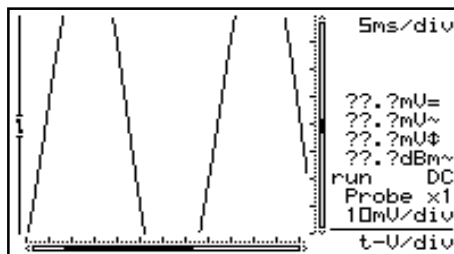

Fig 28
- If the signal goes off-screen or when the signal is too small for measurement, the readout will show ??? (see fig 28)